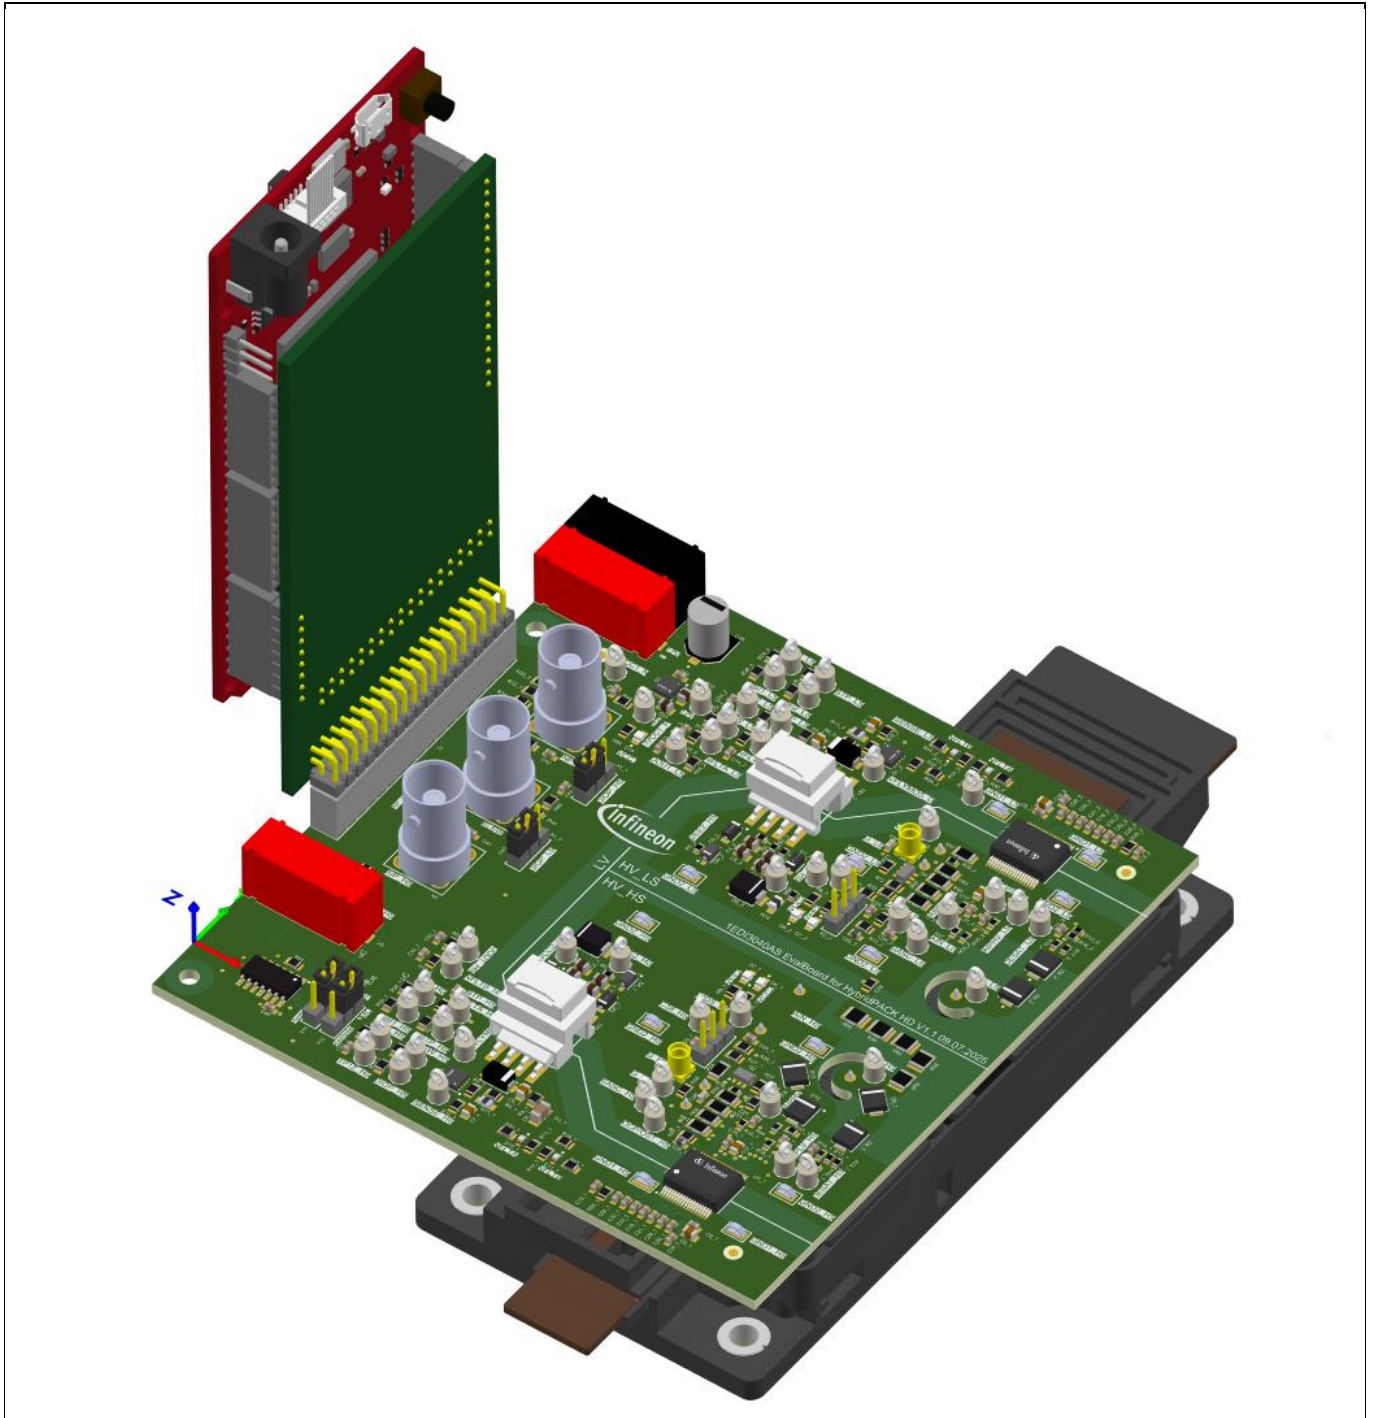

Figure 21 EiceDRIVER™ gate driver 1EDI3040AS HybridPACK™ HD evaluation board with base board
- Connect the HybridPACK™ HD module and the Aurix™ Shieldbuddy to the EiceDRIVER™ gate driver 1EDI3040AS HybridPACK™ HD evaluation board as shown in Figure 21 .